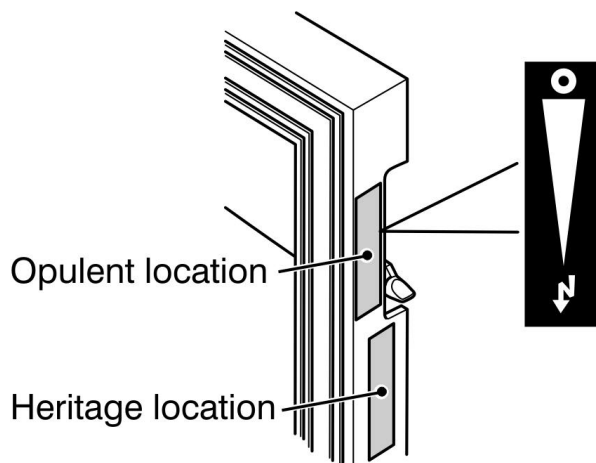

Figure 28. Control position label
Step 5. Supplied with the fire is a self adhesive control position label. Peel the backing from the label and position as in figure 28.
3. Supplied with the fire is a self adhesive control position label. Peel the backing from the label and position as in figure 28.